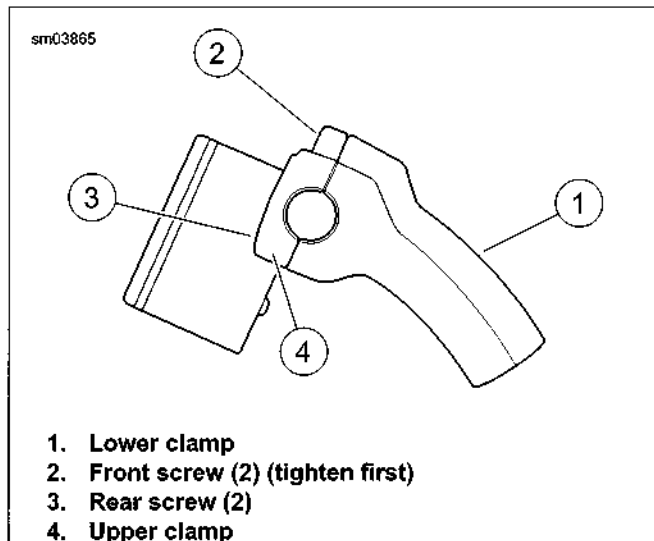

Figure 2-131. Handlebar Riser: XL 1200C
3. See Figure 2-131. Install handlebar: